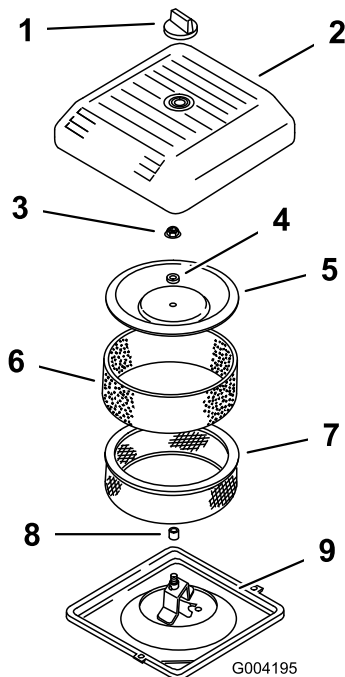

Figure 17
2. Unscrew the knob and remove the air cleaner cover (Figure 17).
3. Carefully slide the foam pre-filter off of the paper element (Figure 17).
4. Unscrew the cover nut and remove the cover, spacer and paper filter (Figure 17).
2. Place the air cleaner assembly onto the air cleaner base (Figure 17).
3. Install the cover, spacer and secure it with the cover nut (Figure 17). Torque the nut to 95 in-lb (11 N-m).
4. Install the air cleaner cover and secure with the knob (Figure 17).